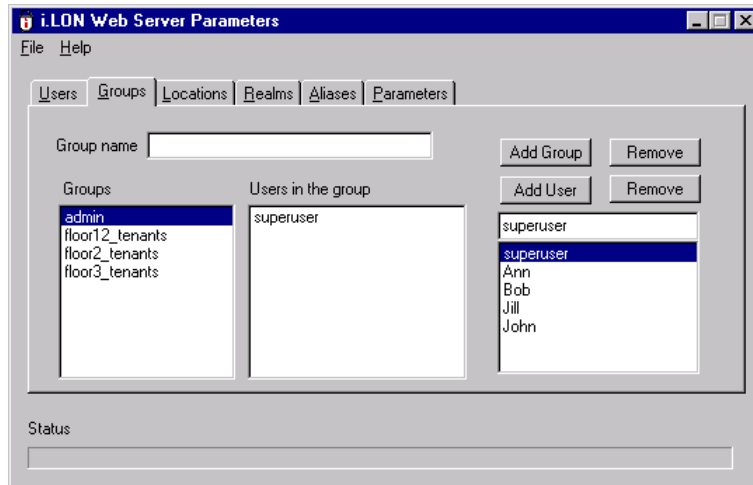

Figure 11-4 – Creating i.LON 1000 Groups
2. Once all the user names and passwords have been entered, create the necessary groups using the Groups tab of the *i.LON Web Server Parameters* application as shown in Figure 11-4.